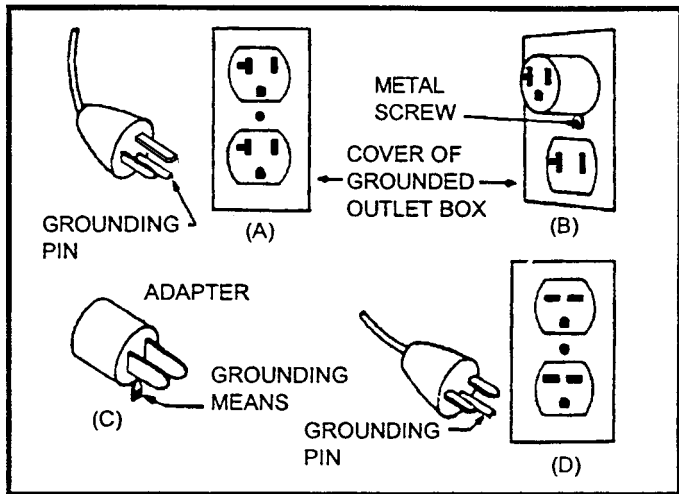

Figure 1. Grounding Methods (230V) Typical
- This concrete vibrator motor (230V) is equipped with a 3-conductor cord, and a 3-prong grounding type plug to fit the proper grounding type receptacle. The green conductor in the cord is the ground wire. **NEVER** connect the green wire to a live terminal. See (Figure 1) for proper grounding methods. (230V ONLY)